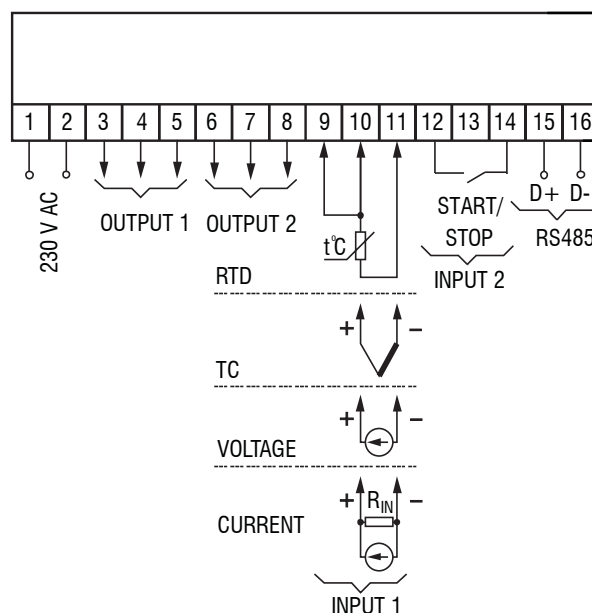

Fig. 5.1 Terminal block layout
- The layout of terminal blocks is shown in Fig. 5.1 and the terminal assignments in Table 5.1
- The inputs should be wired in accordance with Fig. 5.1
Connect the current or voltage signal according to Fig. 5.1. An auxiliary voltage source is needed.